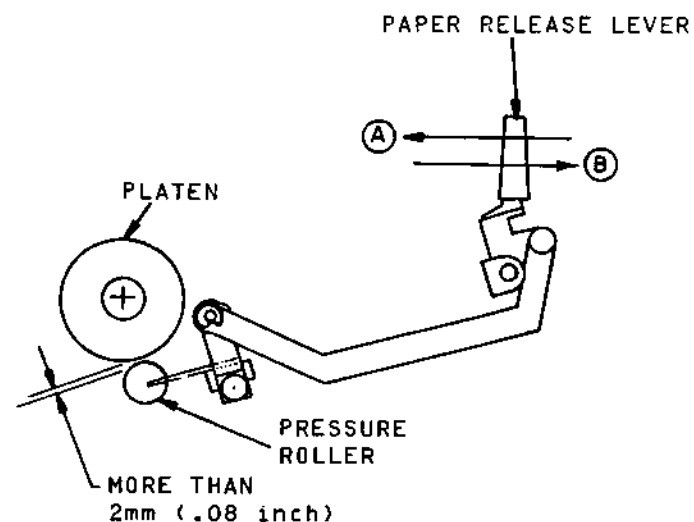

Figure 5-13 Pressure Roller Adjustment
- a. With the platen installed, pull the paper release lever toward arrow direction A (Figure 5-13) to release the pressure rollers from the platen.